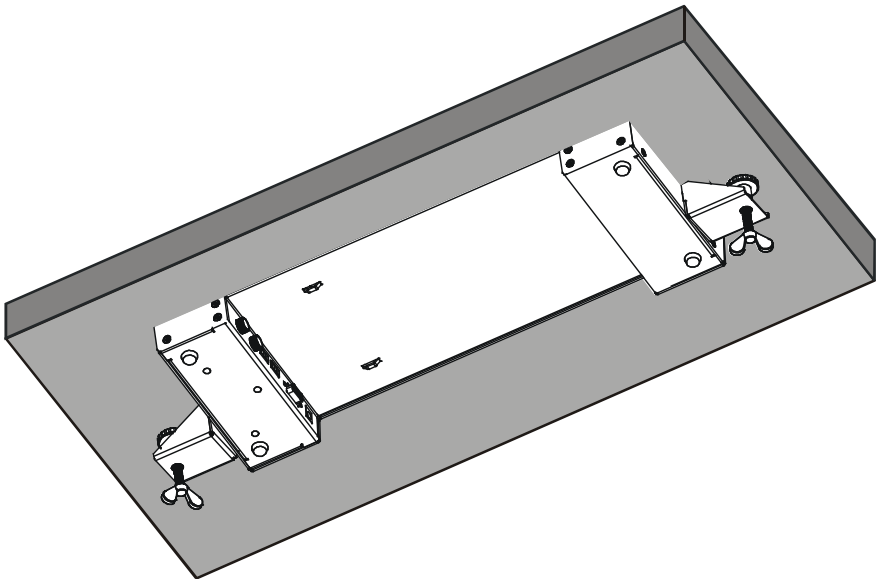

Figure 6: Securing the VP-747T into the Prepared Cut Out Opening
6. Tighten the locking butterfly screws to lock the mounting butterfly screws. The **VP-747T** unit is now secured in place, as illustrated in Figure 6.